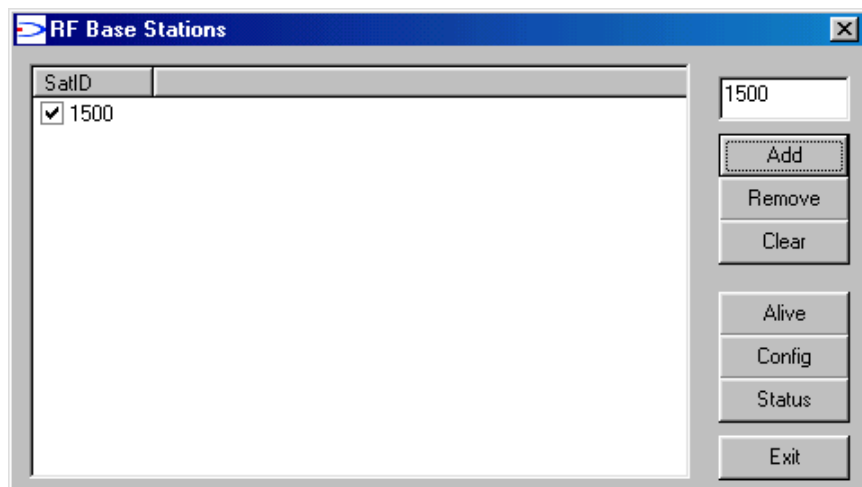

Figure 7 - Base station network
**Add** button: adds a new base station in the network once its address (SatID) has been inserted in the edit box positioned on the upper right side of the dialog box (in Figure 7 the base station ID is 1500).